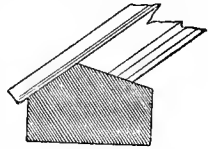

FIG. 32.
**Wall-Plates.**—The proper sectional form for an ordinary wall-plate, to rest on a brick or other wall, and carry the lower ends of the rafters direct, as shown, is illustrated in Fig. 32. It will be seen that the upper surface is bevelled or chamfered off both inside and out, the inner face being both wider and flatter than the outer one. The plate is thus bevelled in order to throw off all moisture and prevent decay. The outer bevel should be of the same angle as the pitch of the roof, as shown. For houses of moderate size, say 10ft. to 15ft. in width, the wall-plates should be of 5in. by 3in. stuff at the least; 4in. by 3in. will do for small structures, but in wide structures (20ft. to 30ft.), or when great solidity is required, plates of 6in. by 4in., or even larger stuff, are frequently employed.